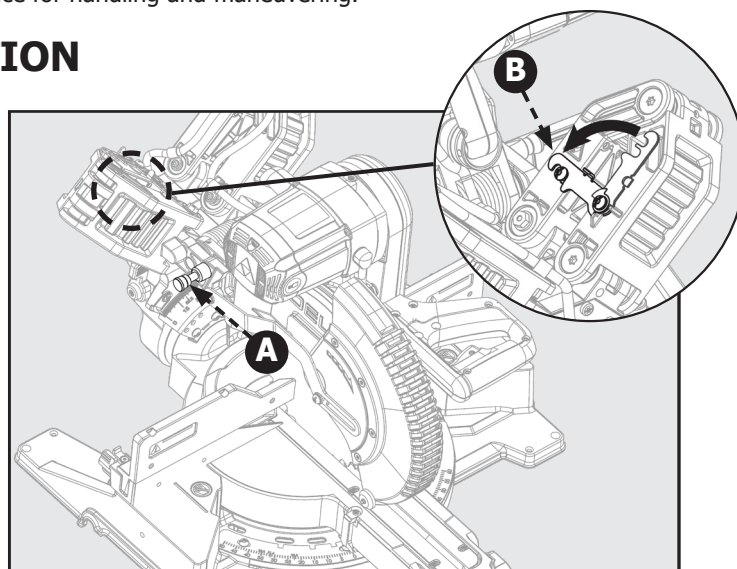

Figure 4
Always lock saw head in the down position before transporting saw. To engage saw head lock pin (A): Push saw head to the down position then push-in lock pin shown in Fig 4.
Always engage the slide prevention lock (B) before transporting this saw. To engage slide prevention lock: Push saw head to the fully retracted position then swing the lock link down as shown in Fig. 4.